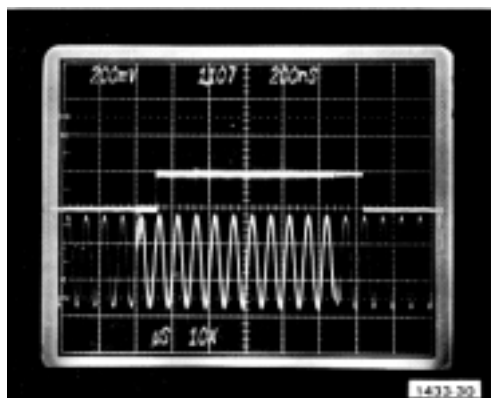

Fig. 5-11. Typical pseudo gate display when A Arm and B Arm Inputs are gated.
l. Check for a pseudo gate display occurring during the positive peaks of the intensified sine wave. See Fig. 5-11 for a typical display.